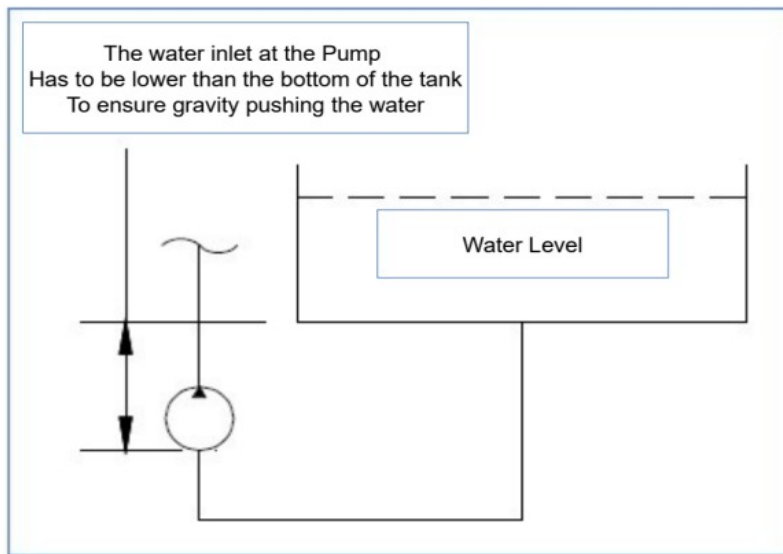

Figure 4.3 – Gravity Feeding Source
3. Gravity feeding water source (See **Figure 4.3**). Use a hose with a diameter of at least 1-1/2” to connect the water tank to the power unit water inlet.
Ensure that the water source can reliably deliver the maximum pump flow of 30 GPM (115 LPM). A minimum flow of 40 GPM (150 LPM) is recommended to ensure that the pump is not starved of water. If connecting to a gravity feed tank, locate the tank outlet above the water inlet connection on the power unit to ensure a flooded suction line (See **Figure 4.3**).